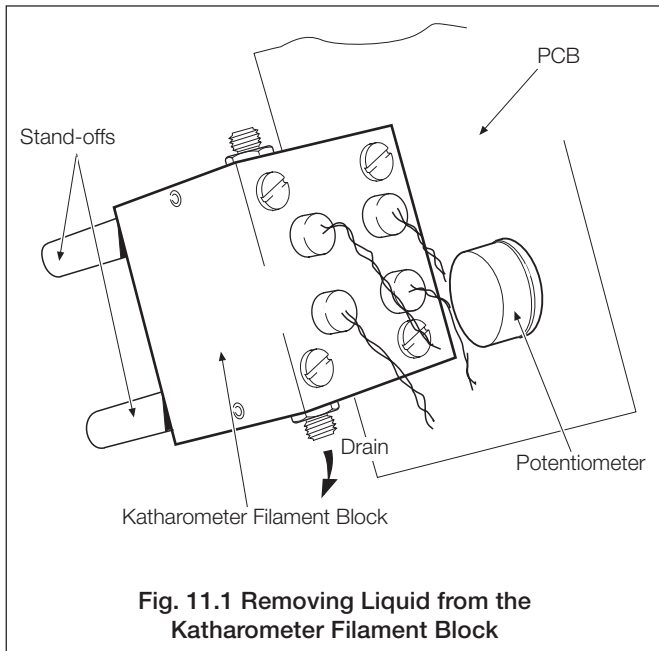

Fig. 11.1 Removing Liquid from the Katharometer Filament Block
11.4.1 Removing Liquid from Katharometer Measurement Block – Fig. 11.1
- f) Remove the katharometer filament block assembly from the case and tilt at 45° to the horizontal. This allows any liquid to drain from the measurement block – see Fig. 11.1.